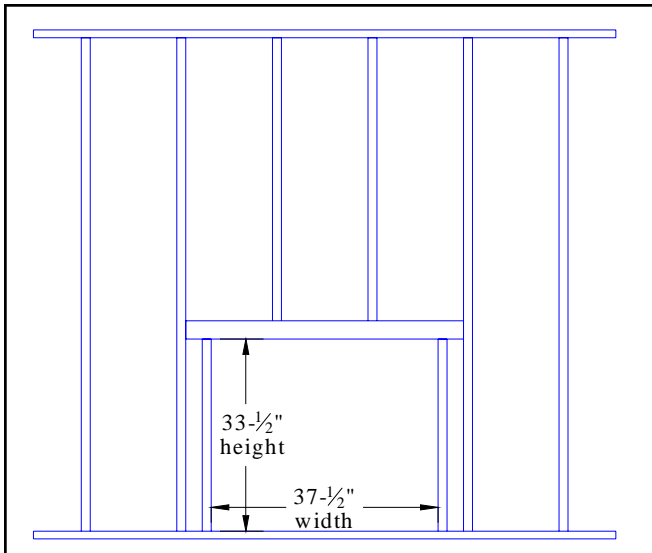

Fig. 5 – Framed Opening
- 1) A rough framed opening of 37 1/2" wide by 33 1/2" high will be required for installation. The minimum depth is 21". (see figure 5)